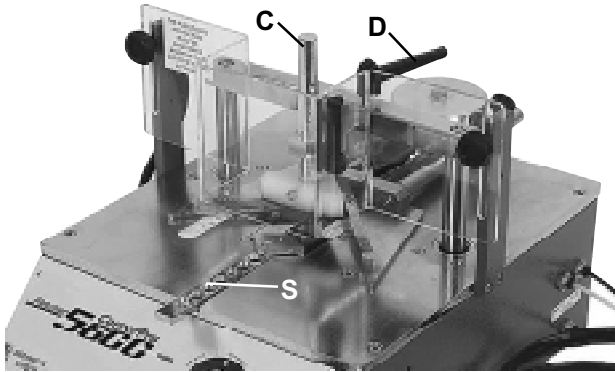

Figure 5
5. Move the **Fence Slide** to the rear to the position for the first **Nail**. Position the **Front Clamp (S)**, in Figure 5, about 3/8" to 5/8" from the rabbet of the moulding. Depress the **Foot Pedal** and a **Nail** will be inserted. If you use glue, apply a small amount to the center of the end of one leg of the moulding to avoid smearing it on the **Upper Clamp Pad** and the **Hammer Block**.